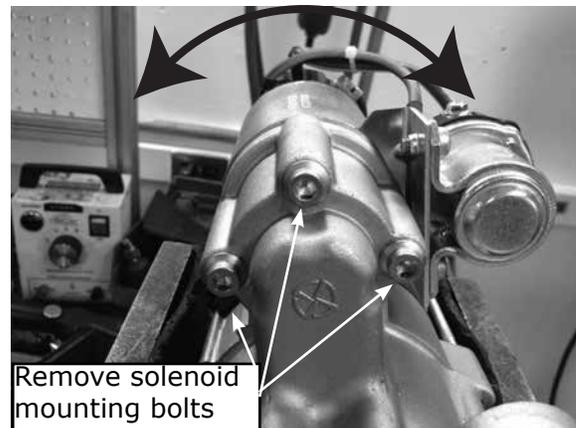

Fig 2
Step 1: Remove solenoid mounting bolts. Fig 2
Step 2: Rotate relay to desired location. Fig 2